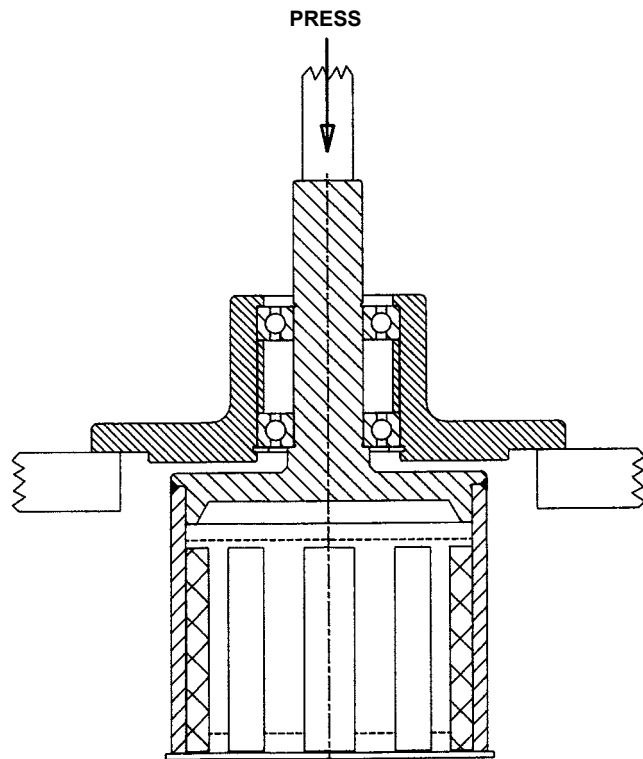

FIGURE 13
2. Remove external retaining ring from shaft, place unit into press and push out shaft as shown in **Figure 13**. Support end of outer magnet to prevent it from dropping as possibly being damaged.